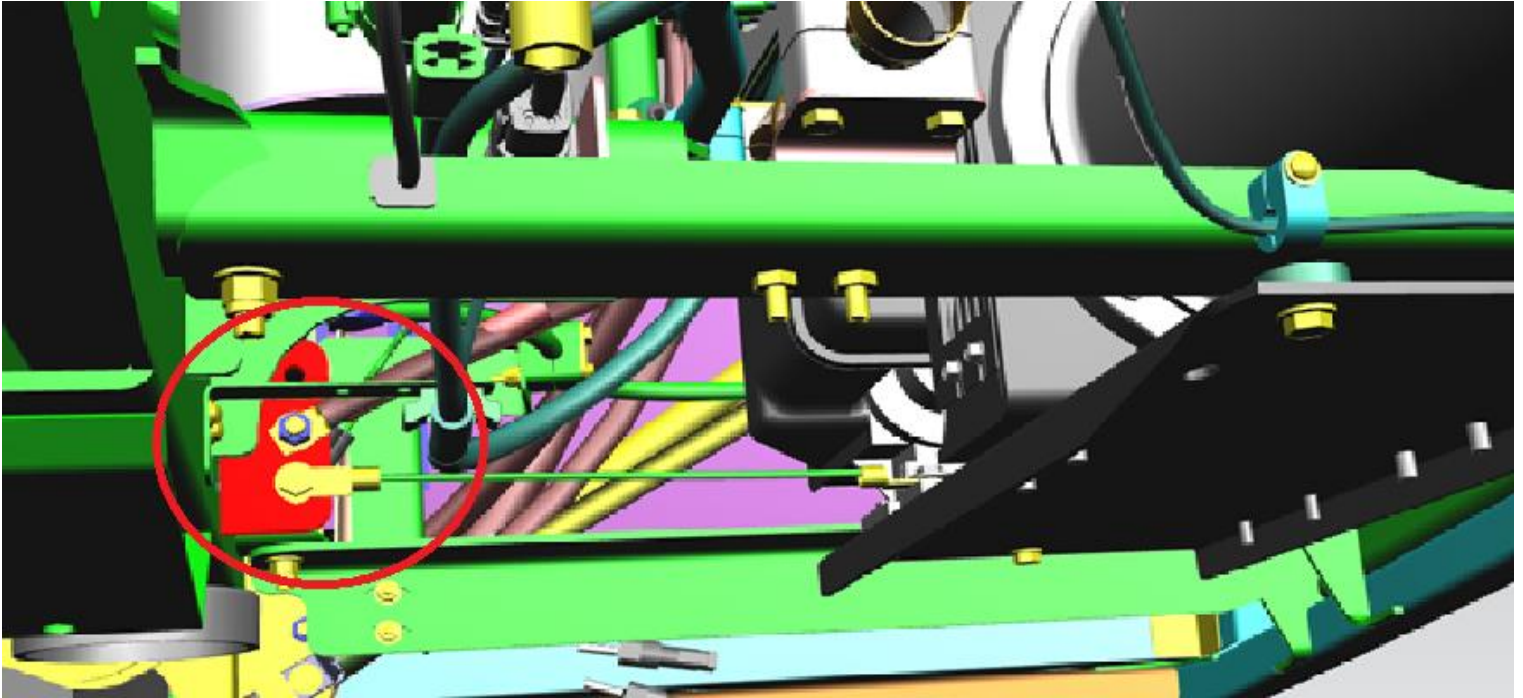

Figure 3: Bottom View of Air Compressor
15. Locate the air compressor grounding connection highlighted and circled below in Figure 3.